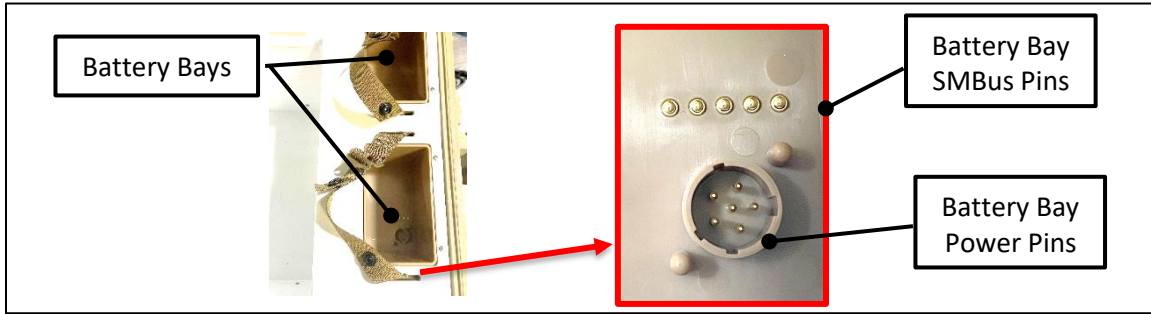

Figure 22: Inspect xFridge Battery Terminals
- There are two (2) Battery Bays with receptacles in the xFridge as shown in Figure 22.
- The integrity of the Battery Bay receptacles and pins should be examined for corrosion or damage. A photograph of receptacle and SMBus pins are shown in Figure 22.